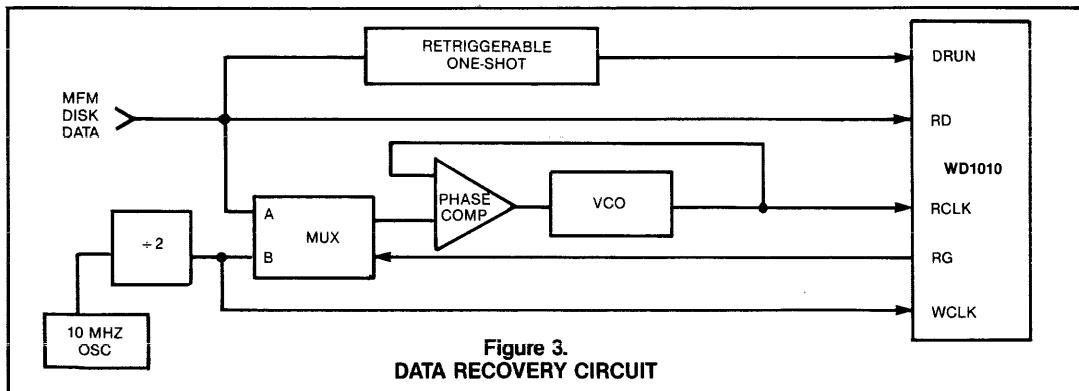

Figure 3. DATA RECOVERY CIRCUIT
The data recovery circuits consist of a phase-lock loop data separator and associated components. The WD1010-05/08 interacts with the data separator through the DATA RUN (DRUN) and Read Gate (RG) signals. The block diagram of the data separator circuit is shown in Figure 3. Read data from the drive is presented to the RD input of the WD1010-05/08, the reference multiplexor, and a retriggerable one shot. The read gate (Pin 38) output will be low when the WD1010-05/08 is not inspecting data. The PLL at this time should remain locked to the reference clock.